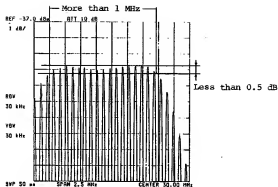

Fig. 11-55 30 MHz (three stage) B.P.F. adjustment
- (d) Using the external spectrum analyzer with the high impedance probe, observe the signal response at the connection between C355 and C356. Press     , then use the DATA knob to change the Step FM setting. Adjust C342, C343, and C344 so the observed 30 MHz (three stage) B.P.F. response has a 1 MHz 0.5 dB bandwidth and a maximum level of about 30.00 MHz is attained. (See Figure 11-55.) Step FM will change in 2 kHz steps. If a smaller frequency stepping is desired, press      c.